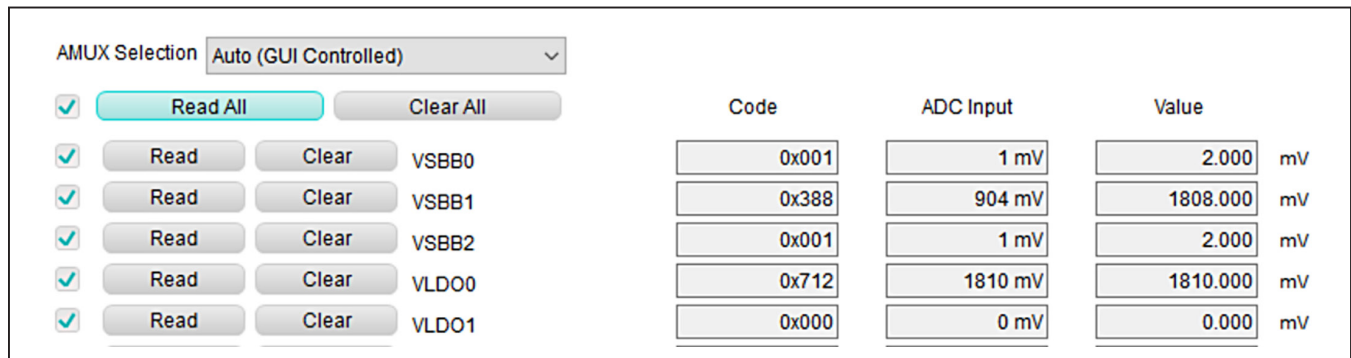

Figure 6. Quick Start: Regulator Check with the ADC
- 7) On the **ADC/AMUX** tab of the GUI, click the **Read** buttons next to VSBB0, VSBB1, VSBB2, VLDO0, and VLDO1. For the MAX77654A, 0V, 1.8V, 0V, 1.8V, and 0V should appear, respectively (Figure 6).